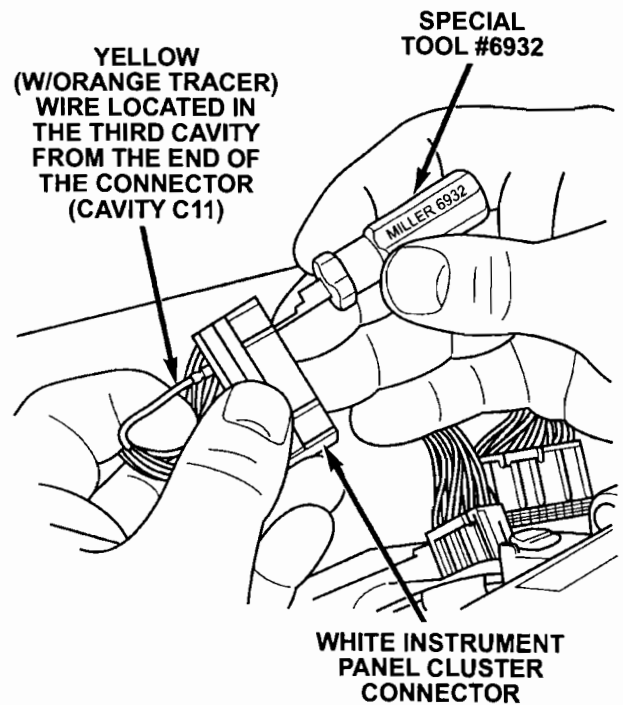

Figure 5
b. Using Special Tool 6932 (part of Special Tool kit 8197A), probe the white instrument cluster electrical connector cavity from the terminal side to release the yellow (w/orange tracer) wire terminal lock (Figure 5 and 6).
c. With Special tool 6932 inserted into the connector, remove the yellow (w/orange tracer) wire from the white instrument cluster connector (Figure 5 and 6).